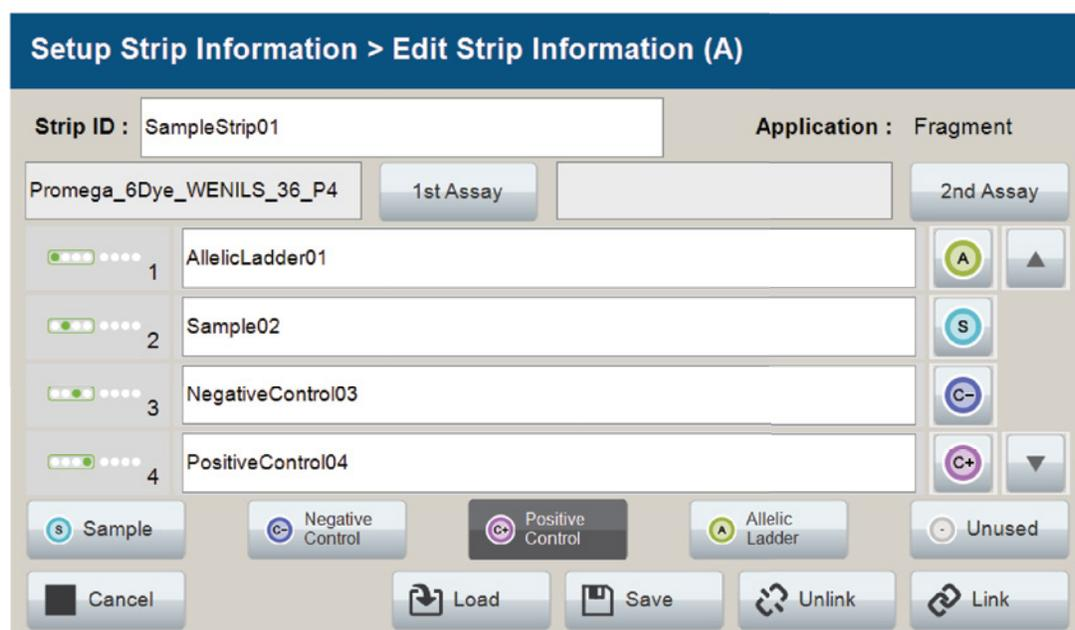

Figure 18. Completed 'Edit Strip Information' screen.
11. When all information is entered and verified for the strip, select **Link** on the lower right corner of the 'Edit Strip Information' screen (Figure 18). This will link the strip to the run. If you want to save the strip information to use in future runs, you need to save the information by selecting **Save** at the bottom of the 'Edit Strip Information' screen (Figure 18). This will save the strip information so that it can be loaded later into another run, as well as link the strip to the run. Refer to the *Spectrum Compact CE System Operating Manual #TMD058* for use of saved strip information.